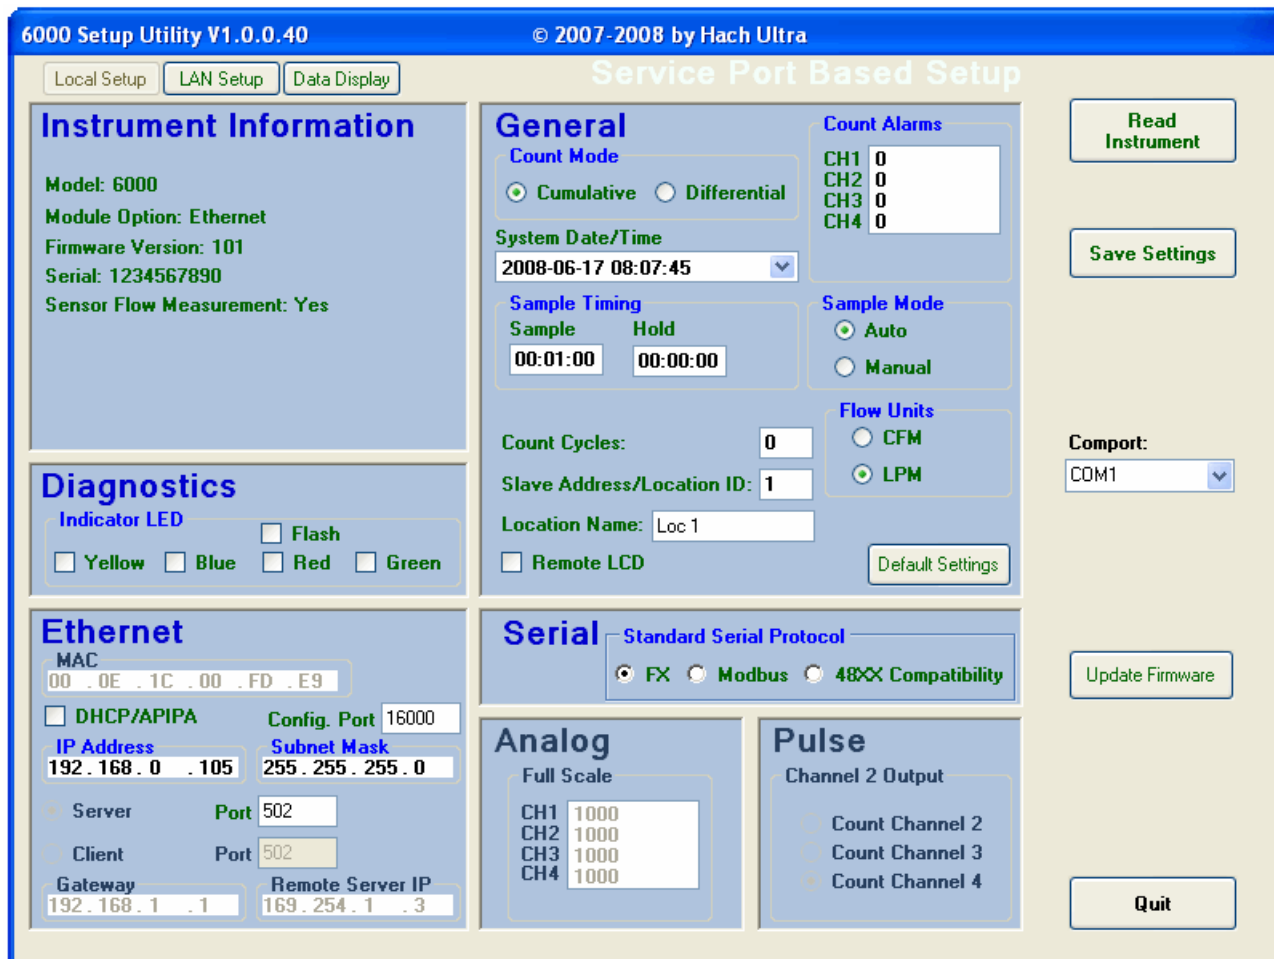

Figure 21 Setup utility program—non wireless units
1. Open the SetupUtility.exe file. The utility program will open (refer to Figure 21).